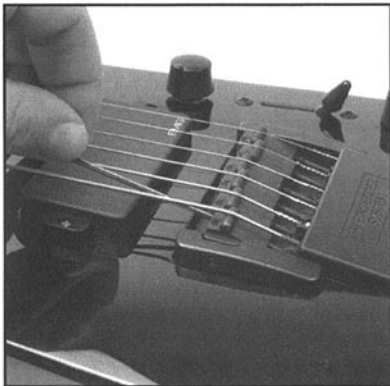

Figure 7
- To set intonation there is a set screw on the neck side of the saddle base (*Figure 7*) Loosen or tighten the set screw to move the saddle in either direction. Rotate the saddle backward if intonation is